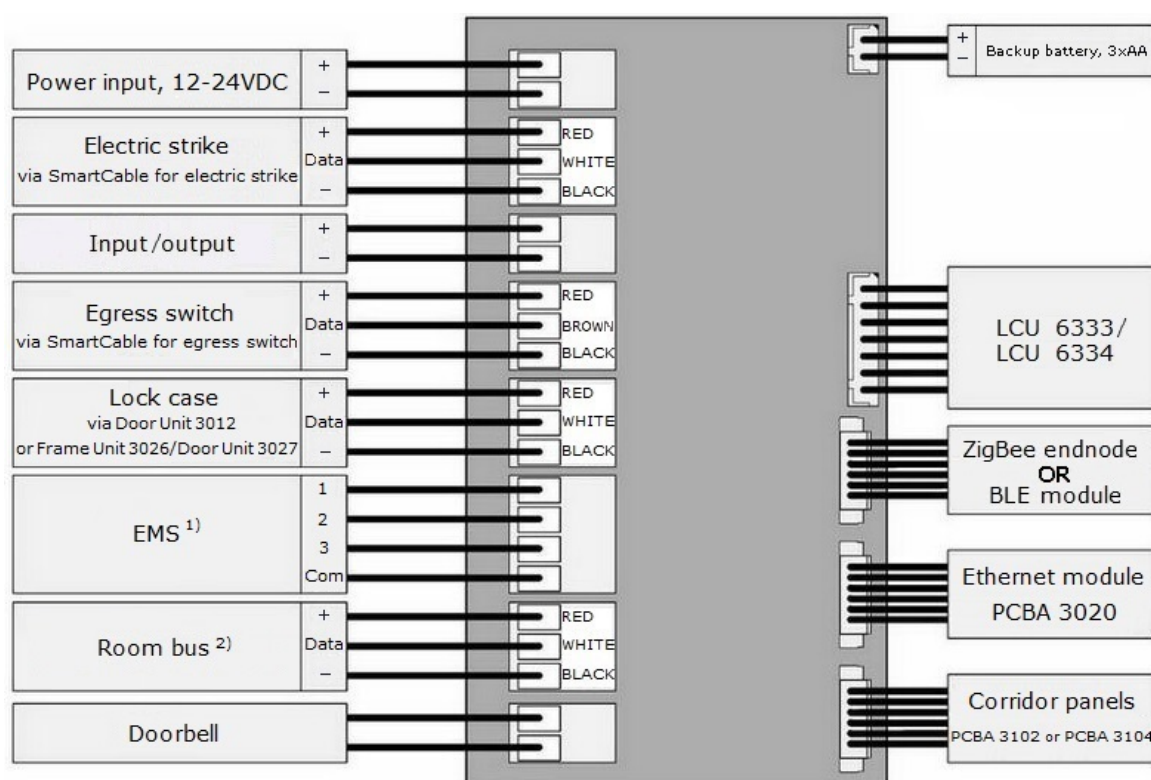

Figure 1
Allure is a locking and room status system with modular architecture. Several configurations are possible, and Figure 1 shows all possible connections to the *main control unit*; an in-wall mounted junction box which also contains an RFID *lock controller unit*, LCU 6333/LCU 6334. Chapter 2 describes mounting and connection of the different Allure parts, while chapters 3-7 give other information about the different parts. Chapter 8 describes troubleshooting and maintenance while the Appendix gives a quick reference of technical data for the different Allure parts and also for the room bus cable etc. **Note:** The Allure product range also includes the below items
- Note:** Some of the parts in Figure 1 are for future use; ask Product Marketing for details.
The main control unit is an in-wall mounted junction box consisting of a main PCBA (*printed circuit board assembly*) and an RFID lock controller unit (LCU 6333/LCU 6334). The main control unit can also be connected to one or more of the units shown in Figure 1.